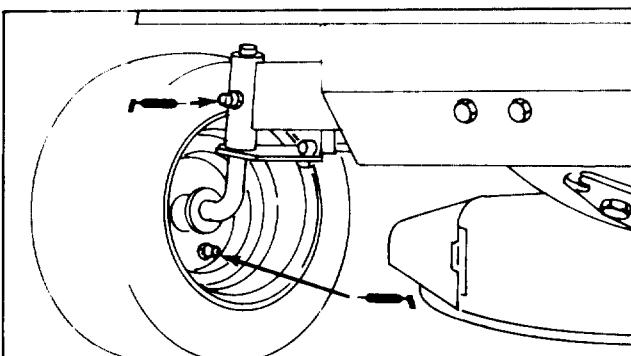

Figure 12
1. Wipe grease fittings on spindles and wheels (Fig. 12) with a clean rag. If there is paint on front of fittings, scrape it off.
2. Lubricate both axle spindles w/No. 2 general purpose grease (Fig. 12). Continue to pump grease until it oozes out the spindle. Wipe up any excess grease.
3. Lubricate both front wheels w/No. 2 general purpose grease (Fig. 12). Pump grease gun about four times. Wipe up any excess grease.